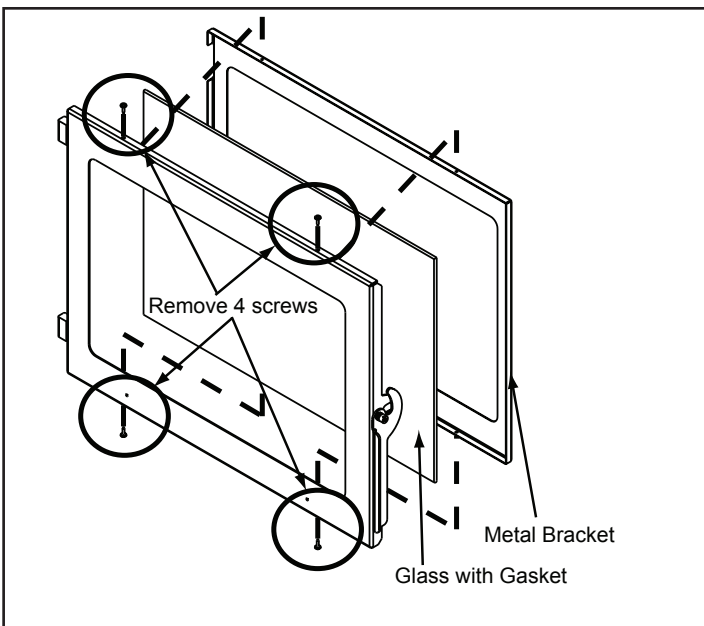

Figure 29.1
- Using a Phillips head screw driver, remove 4 screws, 2 on the top and 2 on the bottom. Remove metal bracket and then remove the glass. **Figure 29.1.**